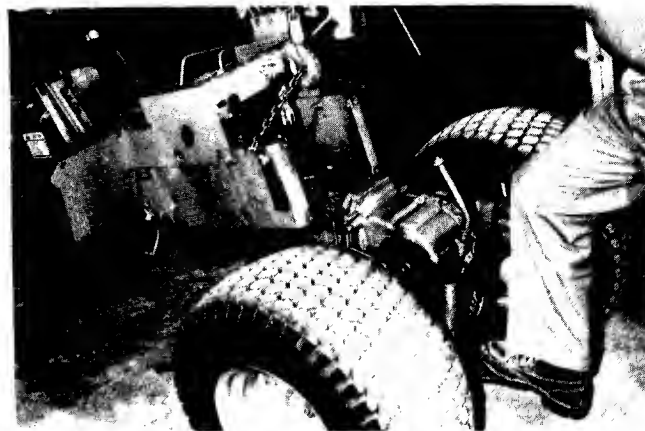

FIG. 4.36-LOWERING TRACTOR ON TRANSAXLE
15. Place foot on drawbar and maneuver assembly out while raising tractor frame Fig. 4.36.
1. Raise tractor frame and maneuver transmission and axle assembly into place. Fig. 4.36.